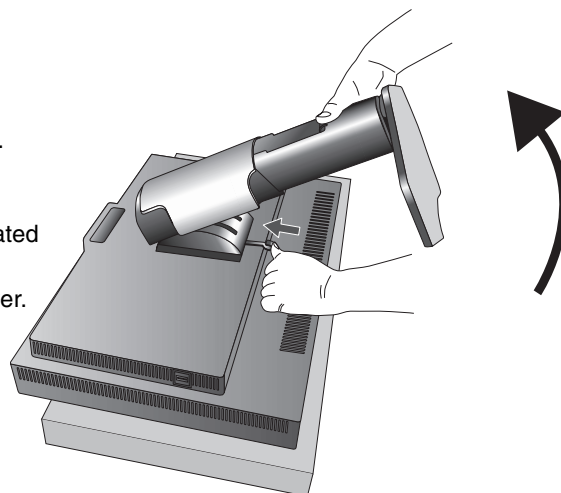

Figure S.1
3. Place monitor face down on a non-abrasive surface (**Figure S.1**). Be sure to not apply any stress or pressure to the integrated front sensor. To avoid this, lay the monitor face down on a desk or table with the integrated front sensor, situated off the edge (**Figure S.1**).
4. Place one hand around the base and one hand on the Quick Release Lever. Push and hold the Quick Release Lever in the direction indicated by the arrows (**Figure S.1**).
5. Lift up the stand to unhook it from the monitor (**Figure S.1**). The monitor can now be mounted using an alternate method. Reverse the process to reattach stand.